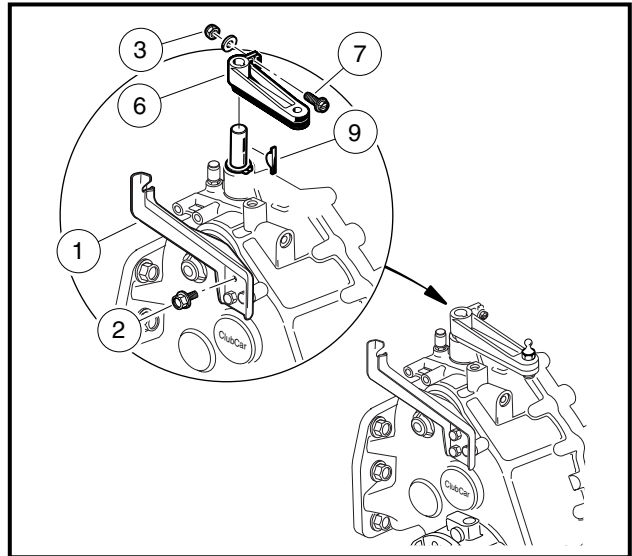

Figure 16-36 Forward/Reverse Shifter Bracket
- 5.9. Remove screws (2) securing the Forward/Reverse shifter cable bracket (1) to transaxle and remove the shifter bracket (**Figure 16-36, Page 16-15**).
20. Remove screws securing the accelerator cable bracket to transaxle (Figure 16-36, Page 16-15). See following NOTE.
- 26.1. Install the three screws (2) securing the Forward/Reverse shifter cable bracket (1) to transaxle and tighten to 135 in-lb (15.3 N·m) **(Figure 16-36, Page 16-15)**.